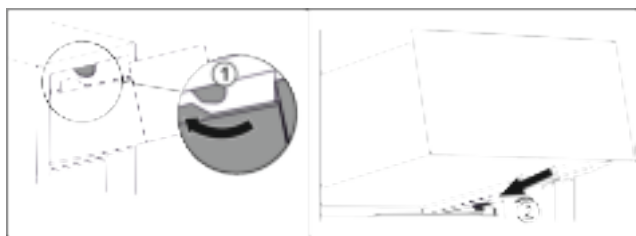

Fig. 89
- Guide drawer around the upper stoppers. Fig. 89 (1)
- Place drawer at an angle behind the lower stoppers on the molded rib. Fig. 89 (2)